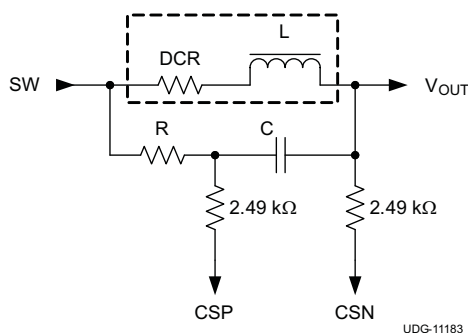

Figure 1. DCR Current Sense
**Figure 1** illustrates the DCR method of current sensing, showing a series resistor and capacitor network added across the buck stage power inductor. When the value of  $L/DCR$  is equal to  $RC$ , then the *voltage* developed across the capacitor,  $C$ , is a replica of the voltage waveform the *ideal current* would induce in the dc resistance (DCR) of the inductor. This method does *not* detect changes in current due to changes in inductance value caused by saturation effects. The value used for  $C$  should be between  $0.1\ \mu\text{F}$  and  $2.2\ \mu\text{F}$ . This maintains low impedance of the sense network, which reduces its susceptibility to noise pickup from the switching node. The trace lengths of the CSP and CSN signals should be kept short and parallel. To aid in rejection of high frequency common-mode noise, a series  $2.49\text{-k}\Omega$  resistor should be added to both the CSP and CSN signal paths, with the resistors being placed close to the pins at the package. This small amount of additional resistance slightly lowers the current sense gain.
The IMON pin signal is a voltage proportional to the output current delivered by the power stage. Equation 2 describes the voltage magnitude when using the circuit shown in Figure 1 and reflects the gain reduction caused by the series 2.49-kΩ resistors.